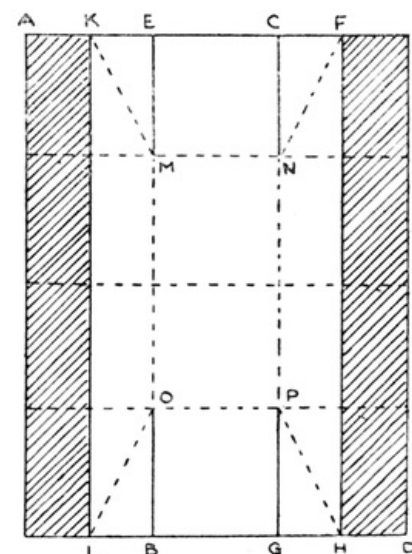

FIG. 47
**A Punt** (Fig. 46). Begin with a square, fold into sixteen parts, cut off a quarter. Fold in half oblongs A B and C D (Fig. 47). Cut off the shaded portions. Cut along the lines M E, C N, O B, P G. Fold along M K, F N, O L and P H. The child will accomplish this fold more easily if she puts her ruler along a line from K to M and folds the paper over it. A coloured band should be chalked round the punt. To fasten it together gum K E M to M E C N, C N F to M E C N and so on the other side. Three seats are